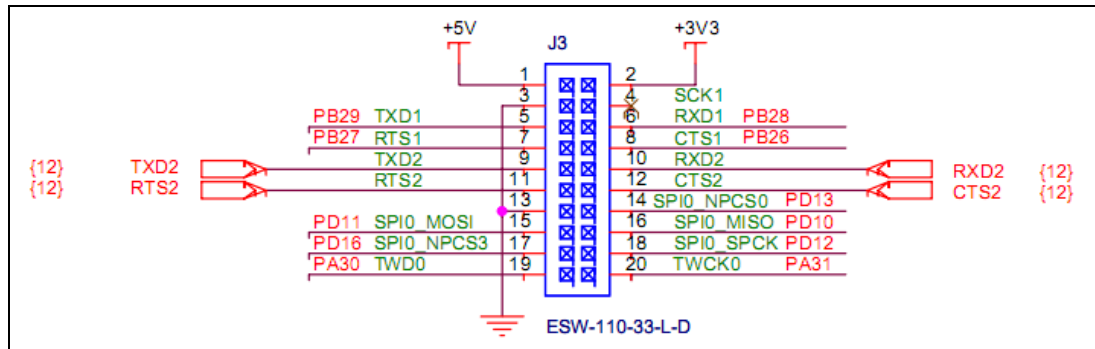

Figure 2-8
(2) JTAG interface is shown in figure 2-8: